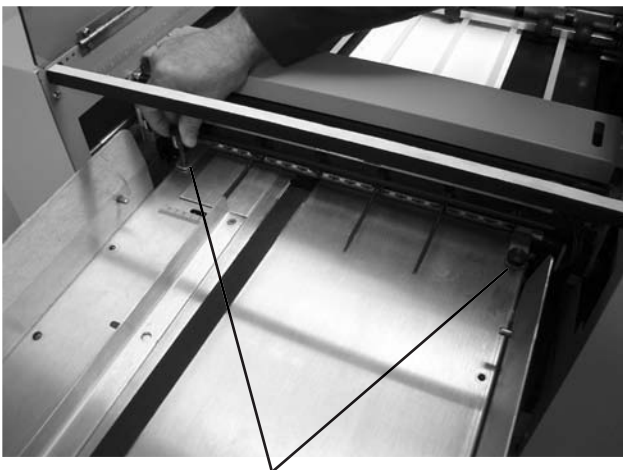

Fig. 14
2. Align the outfeed of the burster with the transfer table and push the burster forward until the mounting holes of the transfer table and the burster line up. Slide mounting pins into holes to lock the table in place (Fig. 14).